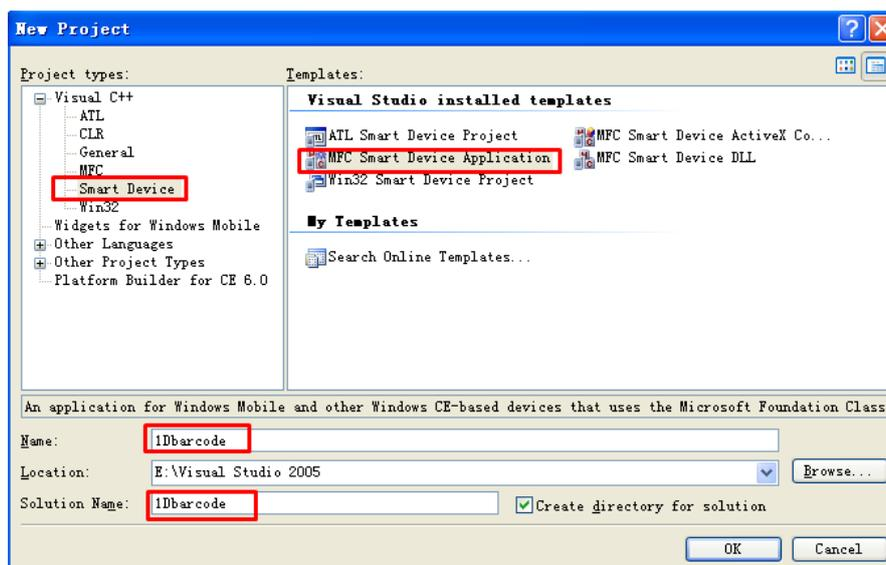

Figure6.1-11
2) Select it and you'll see the interface as Figure6.1-11.